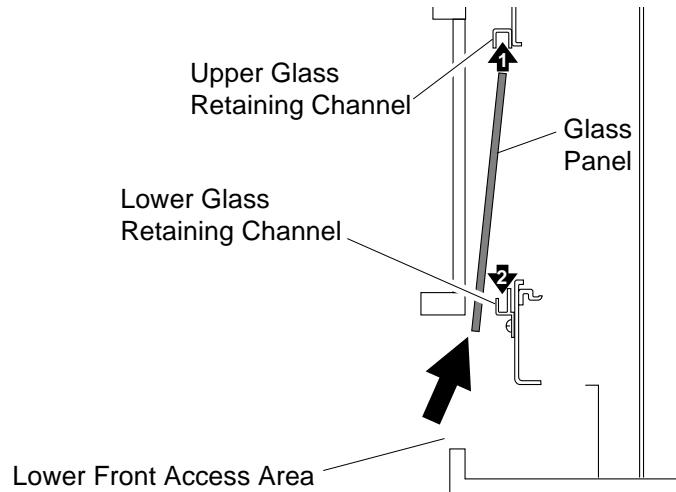

Figure 12 - Inserting Top Edge of Glass Panel into Upper Glass Retaining Channel
6. Insert top edge of glass panel into the upper glass retaining channel (see Figure 12).